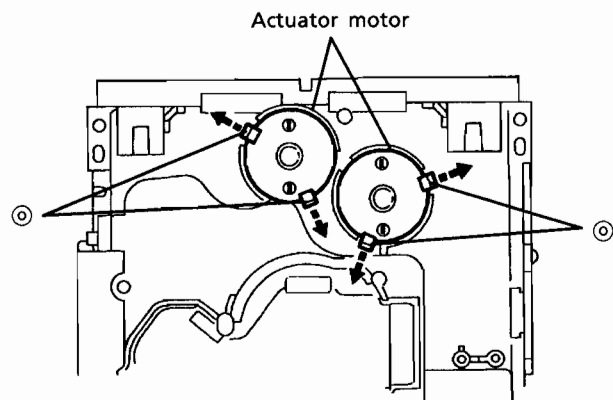

Fig. 46
5. Reverse the chassis ass'y and widen 4 poles \textcircled{O} which secure both actuator motors to its arrows to remove the actuator motors. (See Fig.46.)